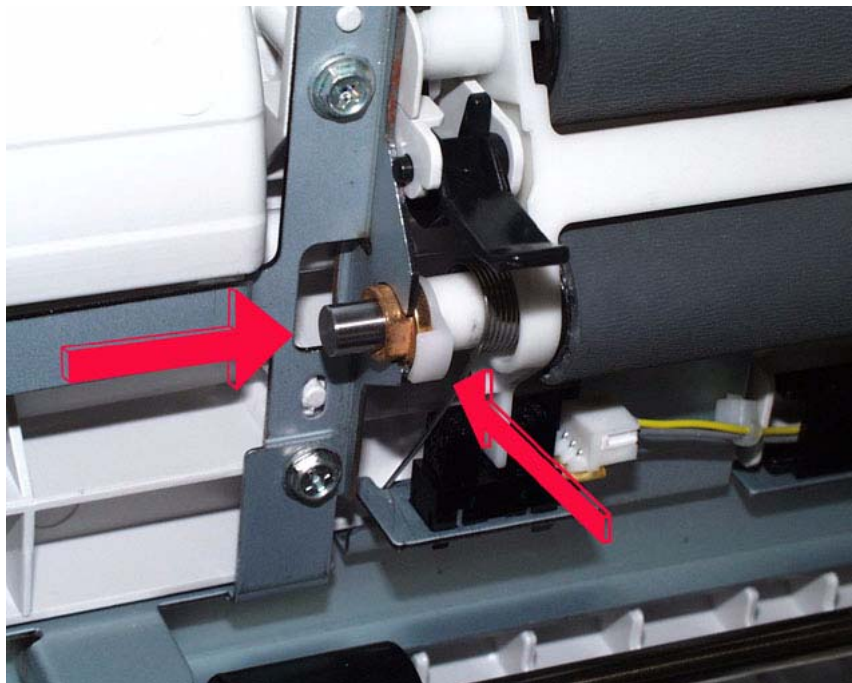

Figure 8 Installing the Feed Roll and Feed Roll shaft.
4. Install the Feed Roll and Feed Roll shaft. The shaft is spring loaded so push in the shaft and hold it and install the locking clip. (Figure 8)